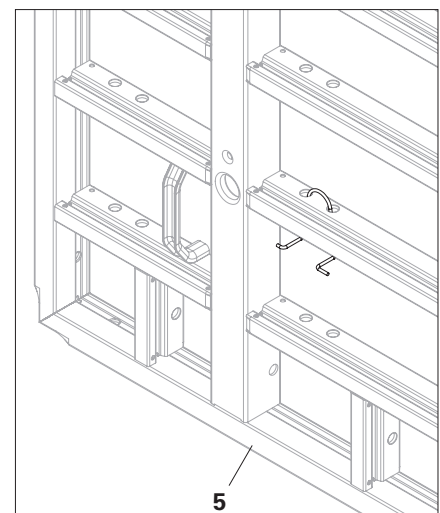

Fig. A8.04
- Tie Hanger MX (106) is attached to Panel MX-2 (5).
- Several MX-2 panels (5) can be stacked on top of each other and transported.
- The Panels MX-2 (5) do not collide. (Fig. A8.04)